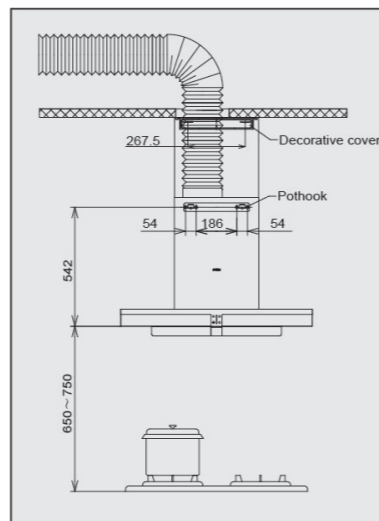

Fig.1
2. Refer to Fig 1, set the right position on the wall to drill and then firmly imbed the expansion pipe. Insert wooden screws to tighten the fixed hook and decorative cover hook; you can also use two ST3.9X9.5 self-tapping screw to fix the decorative cover on the suspended ceiling.
6. Install the exhaust pipe according to Fig 1: check the pipe shell is not bulging and not shriveled, curve freely. The exhaust pipe and wall should be tightly connected to prevent smoke back, the backflow barrier blade should be up and down smoothly.